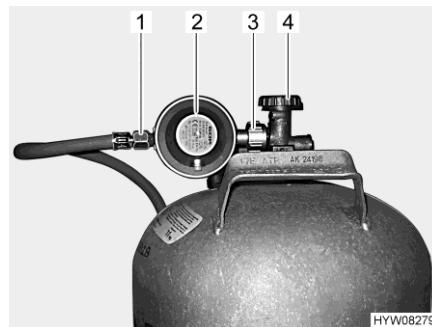

Fig. 43 Gas bottle connection
- Close the regulator tap (Fig. 43,4) on the gas bottle. Pay attention to the direction of the arrow.
- Hold the gas pressure regulator (Fig. 43,2) and open the knurled nut (Fig. 43,3) (normally a left-hand thread).
- Remove the gas pressure regulator and the gas tube (Fig. 43,1) from the gas bottle.
- Position the gas pressure regulator (Fig. 43,2) with gas tube (Fig. 43,1) on the gas bottle and tighten the knurled nut (Fig. 43,3) (normally a left-hand thread). **Do not** tighten too firmly.